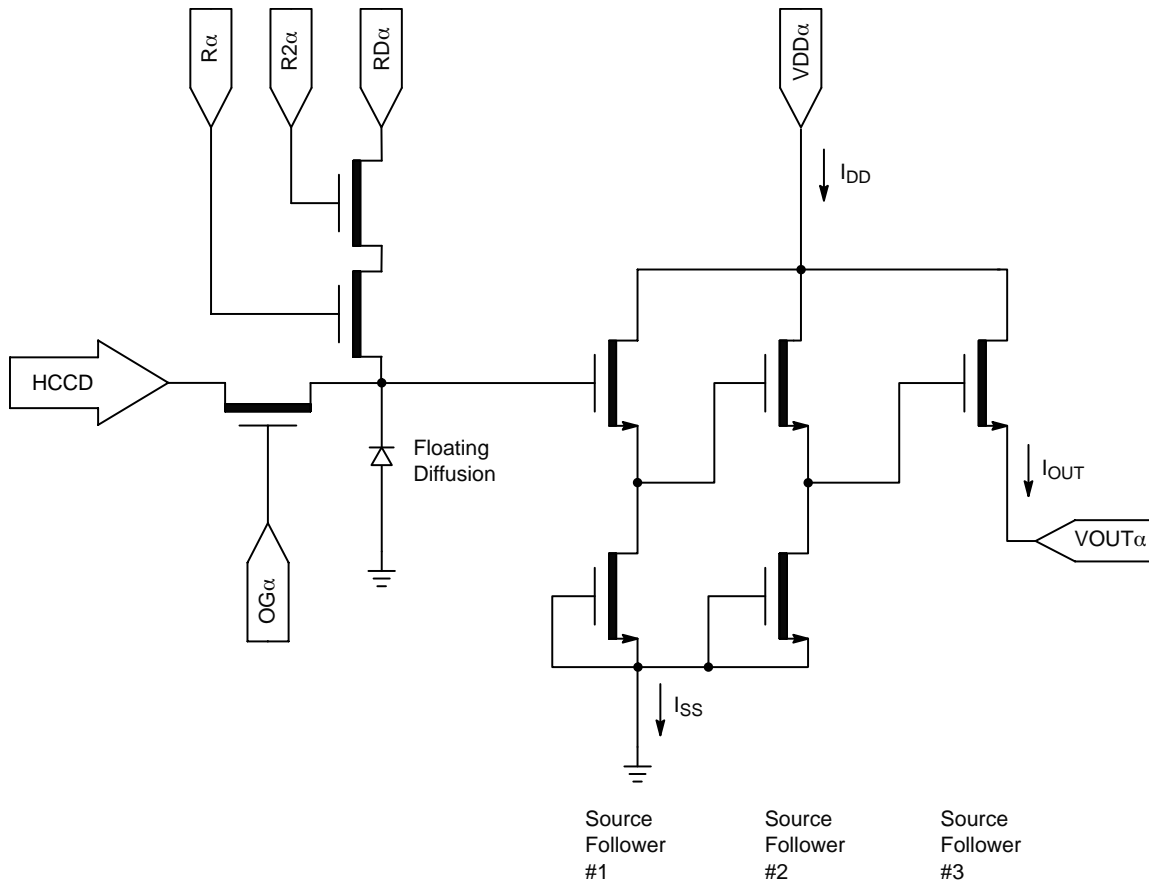

Figure 27. Output Amplifier
- The maximum DC current is for one output.  $I_{DD} = I_{OUT} + I_{SS}$ . See Figure 27.